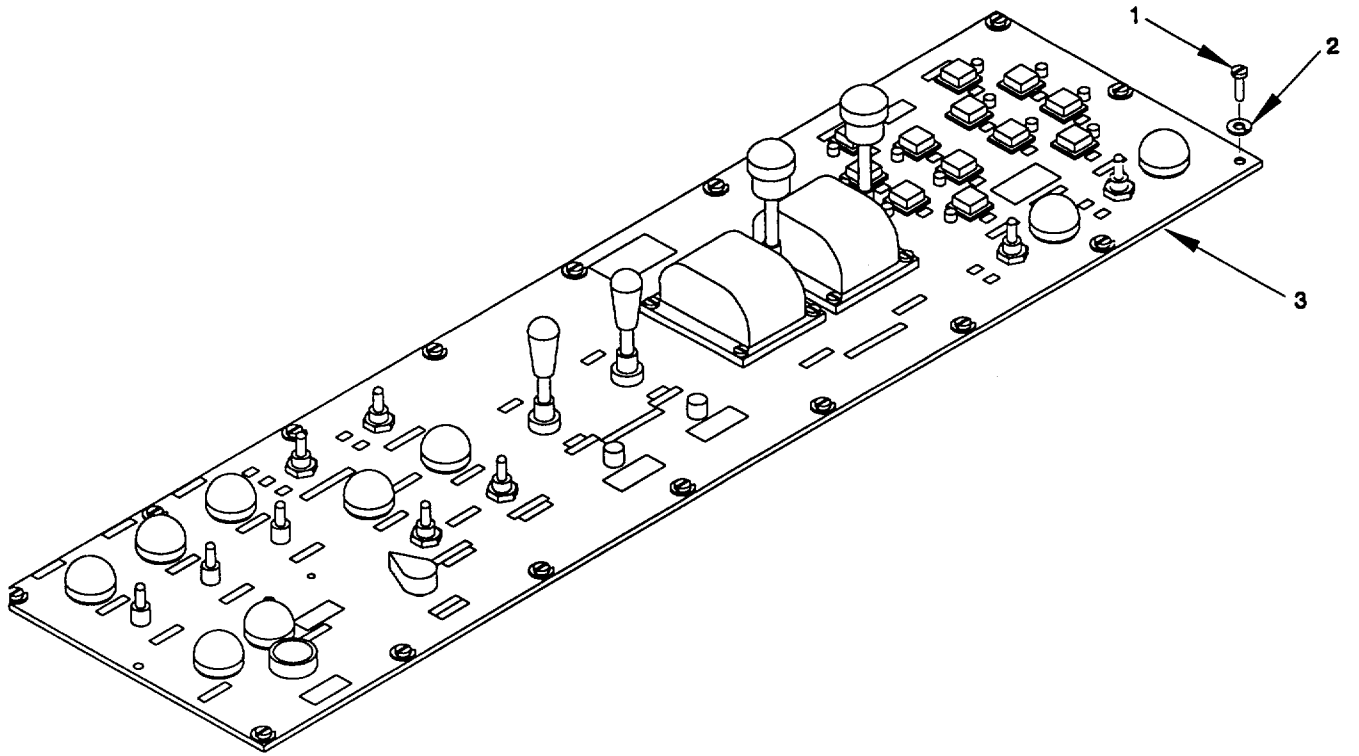

Figure 2-122. Lower Control Panel "A2", Remove/Install.
a. Remove. (figure 2-122)
- (1) Remove 18 pan head screws (1) and 18 lock washers (2) securing lower control panel (3). Lift lower control panel (3) to access wiring.
- (2) Tag and disconnect electrical wiring to lower control panel (3). Refer to Appendix G.
- (3) Lift out panel (3) being careful not to bend or chafe wiring.
c. Install. (figure 2-122)
- (1) Cut a sufficient length of heat shrink tubing to cover exposed surfaces of forked terminals. Use spirao wrap to bundle the wires into a wiring harness. Use tie wraps and mounting bases, as necessary, to hold wiring in place.
- (2) Apply antiseize compound to pan head screws (1).
- (3) Position lower control panel (3). Secure with eighteen lockwashers (2) and eighteen pan head screws (1).
- (4) Reconnect electrical wiring, as tagged. Refer to Appendix G. Use cable ties and mounting bases to secure any loose wiring.